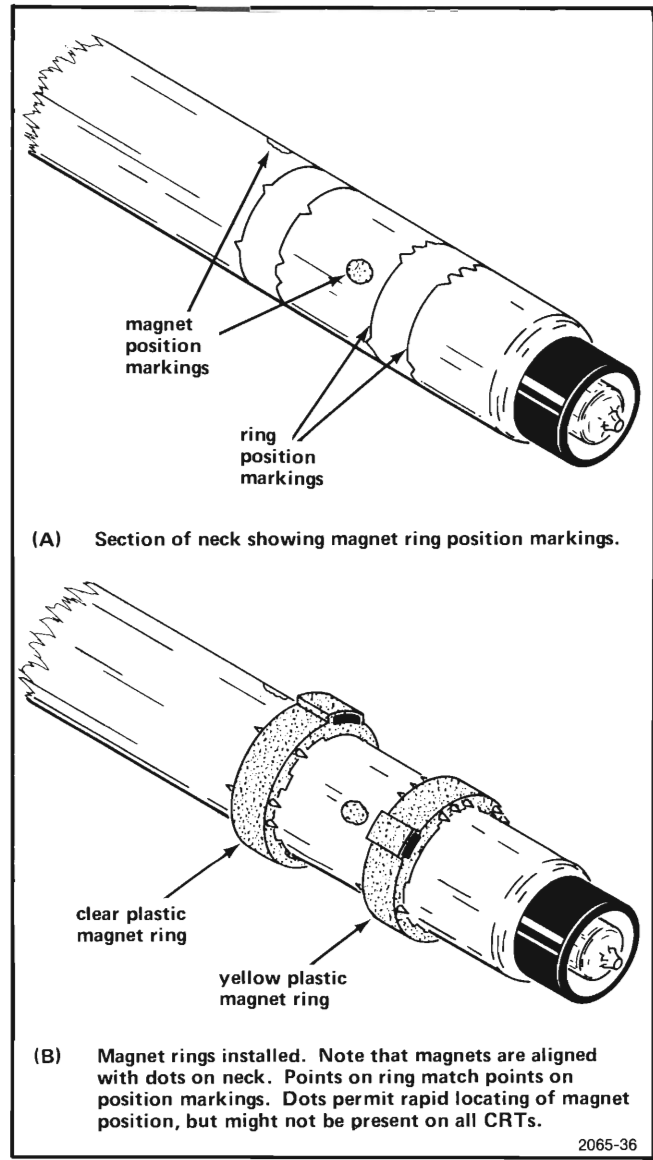

Figure 3-15. CRT Magnet Ring Location Details.
4. The crt may have one or two magnet rings installed on its neck. If there are rings, mark their positions as in Figure 3-15. Next slide the ring(s) off the neck of the tube. If the rings are not removed, they may fall onto the circuit boards and cause damage.